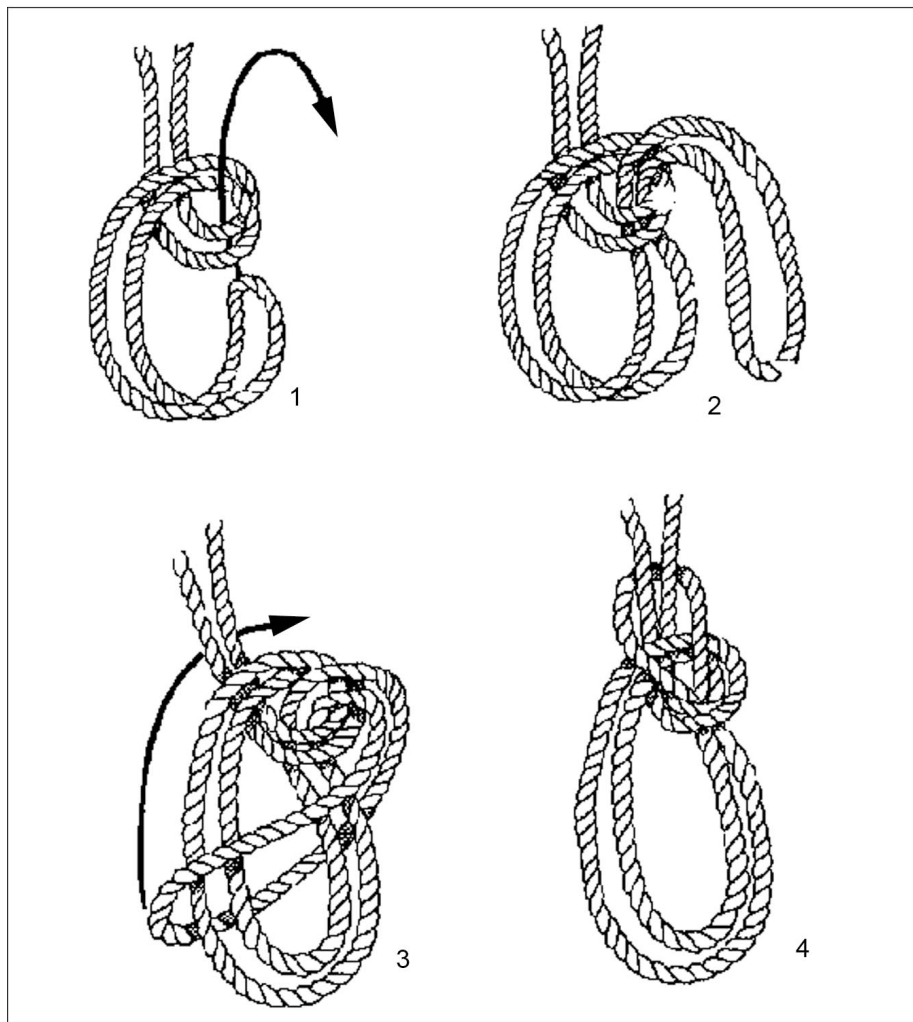

Figure 052-204-1204-4
5. Tie a clove hitch knot. The clove hitch is the best all around knot for rings, spars, or round or nearly round objects (Figure 052-204-1204-5). This knot is easy to tie and will not slip.